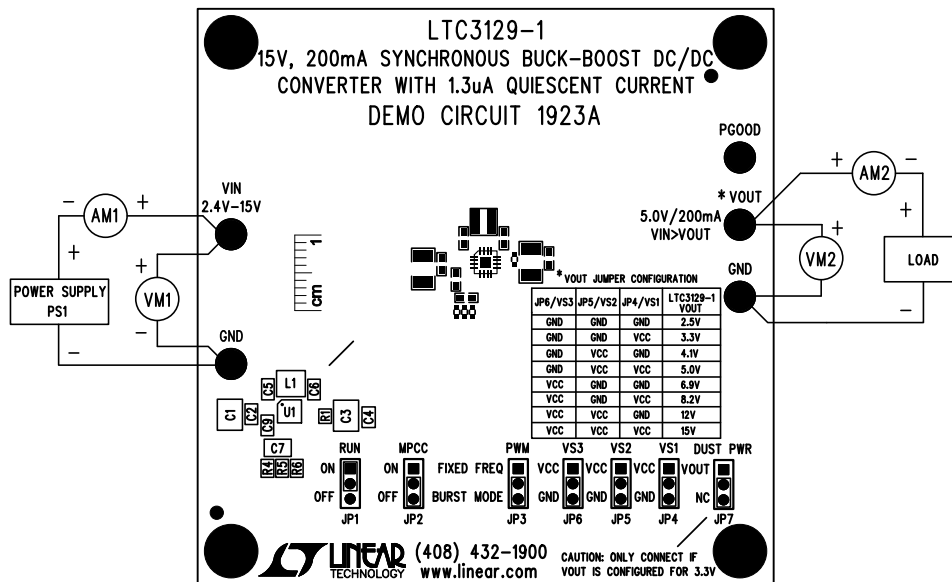

Figure 3. Proper Measurement Equipment Setup
Using short twisted pair leads for any power connections and with all loads and power supplies off, refer to Figure 3 for the proper measurement and equipment setup. The power supply (PS1) should not be connected to the circuit until told to do so in the procedure below.
2. With power OFF connect the power supply (PS1) as shown in Figure 3. If accurate current measurements are desired (for efficiency calculations for example) then connect an ammeter (AM1) in series with the supply as shown. The ammeter is not required however.
3. Connect a 50mA load to VOUT as shown in Figure 3 (100Ω for VOUT = 5V). Connect an ammeter (AM2) if accurate current measurement or monitoring is desired.